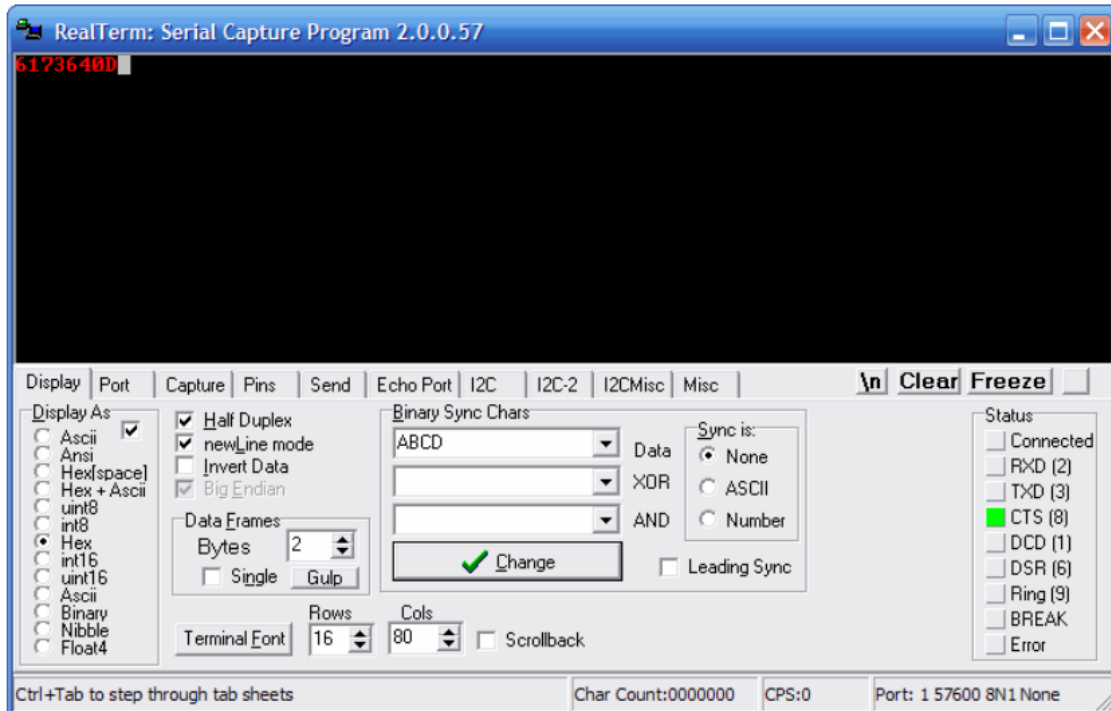

Figure 2: RealTerm: Serial/TCP Terminal
- iii) For recognizing inputs from the board and capturing to text file in PC through the serial terminal, you need to use the Realterm software (or any equivalent software). This software will also be used to display the messages received from the Pt-51 kit on the PC. A screenshot of Realterm window is shown in Figure 2.